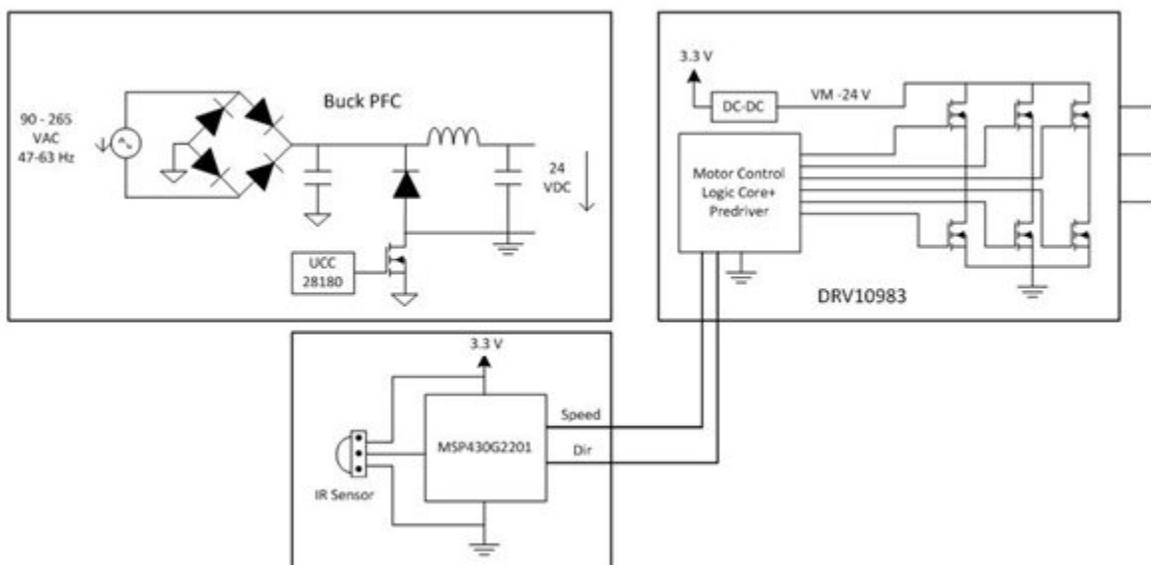

Figure 2. TIDA-00652 Circuit Description
As shown in Figure 2, the board consists of a buck PFC power stage that converts the 85-230V 50/60Hz input to a 24V_{DC} output. The UCC28180 pulse-width modulation (PWM) integrated circuit (IC) controls the power stage. The 24V_{DC} generated by the power stage powers the DRV10983, which in turn drives an external BLDC motor to control its speed.